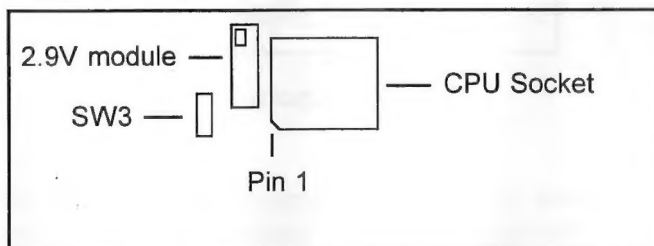

Figure A-1 CPU and switch locations
- Locate the CPU socket on the main board (see Figure A-1).
- Gently pull the 2.9V power module off the main board (see Figure A-1). The power module is attached to the main board via connectors CN11 (top) and CN10 (bottom).
- Using a small screwdriver, adjust dip-switch SW3 (see Figure A-1) as necessary according to Table A-2 for the installed processor.